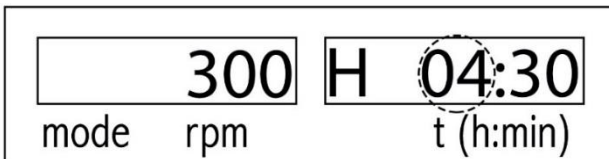

Figure 15: Operating Mode B – setting the hour
- By pushing the right rotary knob again, the hour variable will be flashing and the hour value will be set by rotating the same rotary knob. (in figure 15 The dashed line is a flashing variable in the display).